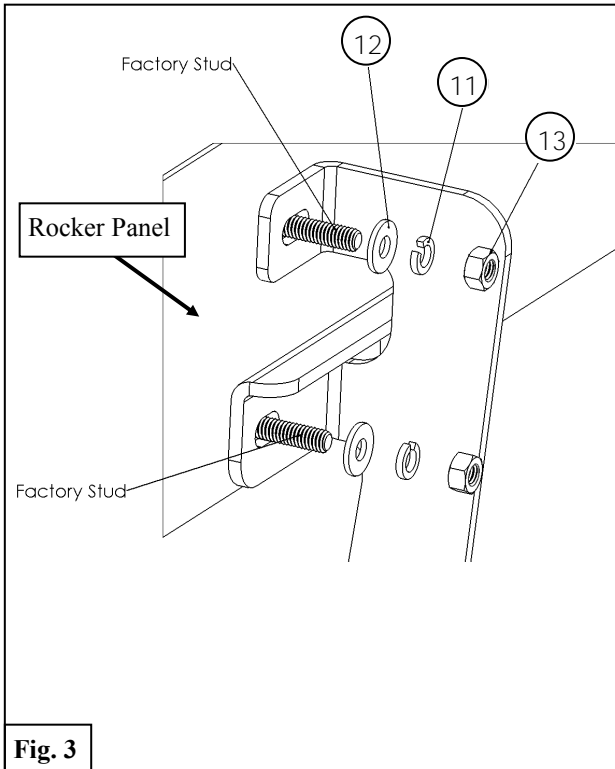

Fig. 3
4. At the rear mounting location, loosely install Rear Mounting Bracket (4) with preassembled Mounting Bracket Base (5) using the supplied M8 hardware. See **Figures 3 & 4**.